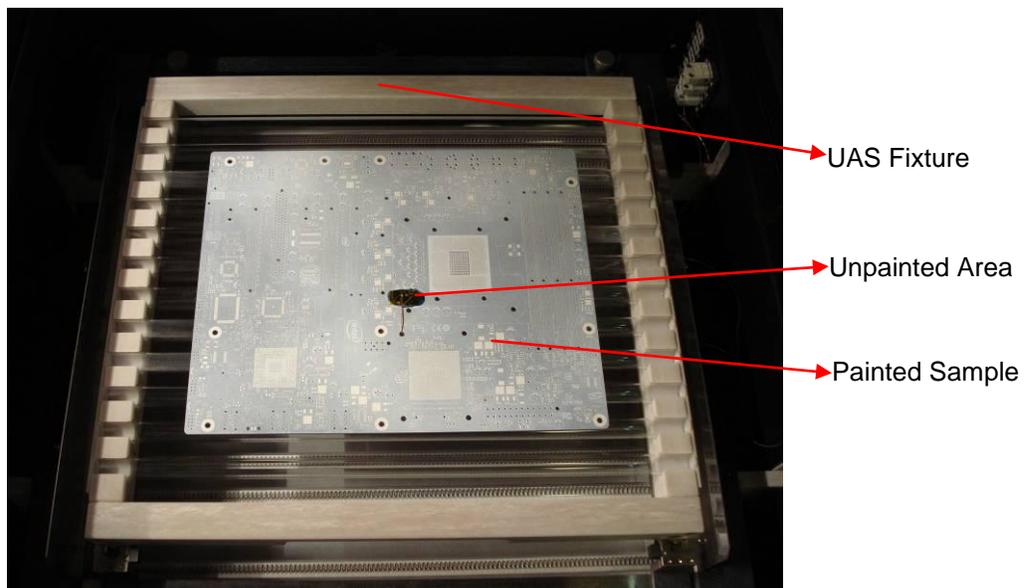

Figure 2 Painted sample on UAS Fixture
In addition to the continuous criteria, the ideal surface finish and color for use with the shadow moiré technique is one that is diffuse and white. Such a sample surface will result in the least amount of noise and highest contrast for the moiré fringe pattern. In order to achieve this surface type, a thin layer of high-heat white paint should be applied on top of the sample. This coating should be scattered uniformly across the whole sample but still be semi-transparent so that surface features are not completely covered (see **Figure 2**). Akrometrix uses and recommends Rust-Oleum™ Specialty High Heat white enamel spray paint.
Unfortunately, a painted surface is not very conducive to tape adhesion, especially at elevated temperatures. As such, if thermocouple measurements are desired on the painted surface, a small area should be left unpainted for attaching a thermocouple with Kapton® tape as shown in **Figure 2**.
In production environments where boards are supported at their edges, the standard rail supports present in any Akrometrix TherMoiré system will suffice. For cases where a belt supported reflow oven is used, a Uniform Area Support (UAS) fixture is better suited to replicating production reflow conditions (see **Figure 2**). This fixture is designed to minimize gravity induced deflection while maintaining minimal surface contact points and allowing IR energy transmittance. While using this fixture, it is advisable to limit use of the system blower, as the resultant air currents can result in excessive vibration of the sample and cause it to “walk” out of the FOV. This is especially true for lighter samples.
- **Sample to Grating Distance:** Maintain a reasonable distance between the sample and grating. Too close or too far can result in loss of data or inaccurate results. For consistency Akrometrix recommends joggling the sample up until it touches the grating, and then lowering it by approximately 200 mils or 5000 μm when using the 100 LPI grating. On samples that have been coated as in **Figure 2**, this distance allows good fringe contrast while leaving space for sample deflection towards the grating. This also reduces the effect of out-gassing during the thermal cycle. For uncoated samples a shorter working distance may need to be selected. For assembled PCBs with taller components, a longer working